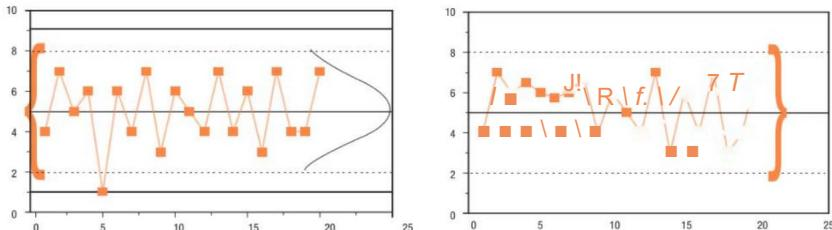

FIGURE 10.12 Examples of control charts
Let's look at some of the related terms you should know for the exam. The following can be indicated on a control chart. As you study these terms, use figure 10.12 to envision what they mean in practice. Understanding these terms and how control charts are used can help you get a few more questions right on the exam.
- **Plotting the control chart** During the Control Quality process, samples are taken and the data are plotted in software that can render a chart (see the small squares shown on the control chart in figure 10.12). The control chart shows whether each sample is within acceptable limits. If the data does not fall within the acceptable range, the results are considered to be "out of control," which indicates a problem that needs to be fixed.
- **Mean (average)** The mean is indicated by a line in the center of the control chart. A normal distribution curve represents the acceptable range of variance around a mean, and it falls within the boundaries of the control limits. In figure 10.12, the normal distribution curve is on the right side of the first control chart.
- **Specification limits** While control limits represent the performing organization's standards for quality, specification limits represent the customer's expectations—or the contractual requirements—for performance and quality on the project. Specification limits are inputs from the customer. Therefore, they can appear either inside or outside the control limits. In the first chart of figure 10.12, they are the solid lines above and below the dashed lines (which represent the upper and lower control limits). To meet the customer's specification limits, the performing organization's standards for quality (control limits) must be stricter than those of the customer. On the exam, assume that specification limits are outside the upper and lower control limits.
- **Rule of seven** The rule of seven is a general rule (and you may see a general rule described as a "heuristic"). It refers to a group or series of data points that total seven or more on one side of the mean. The control chart on the right in figure 10.12 has seven nonrandom data points that fall above the mean. The rule of seven tells the project manager that, although none of these points are outside the control limits, they are not random, and the process is out of control. The project manager should investigate this type of situation and find a cause.
- Assignable cause/special cause variation** An assignable cause or special cause variation signifies that a process is out of control. (See the data point sitting on the lower control limit in the left chart in figure 10.12.) If there is an assignable cause or special cause variation, it means a data point, or a series of data points, requires investigation to determine the cause of the variation. The project manager could use additional tools, such as a cause-and-effect diagram, to try to uncover the root cause of the variation.